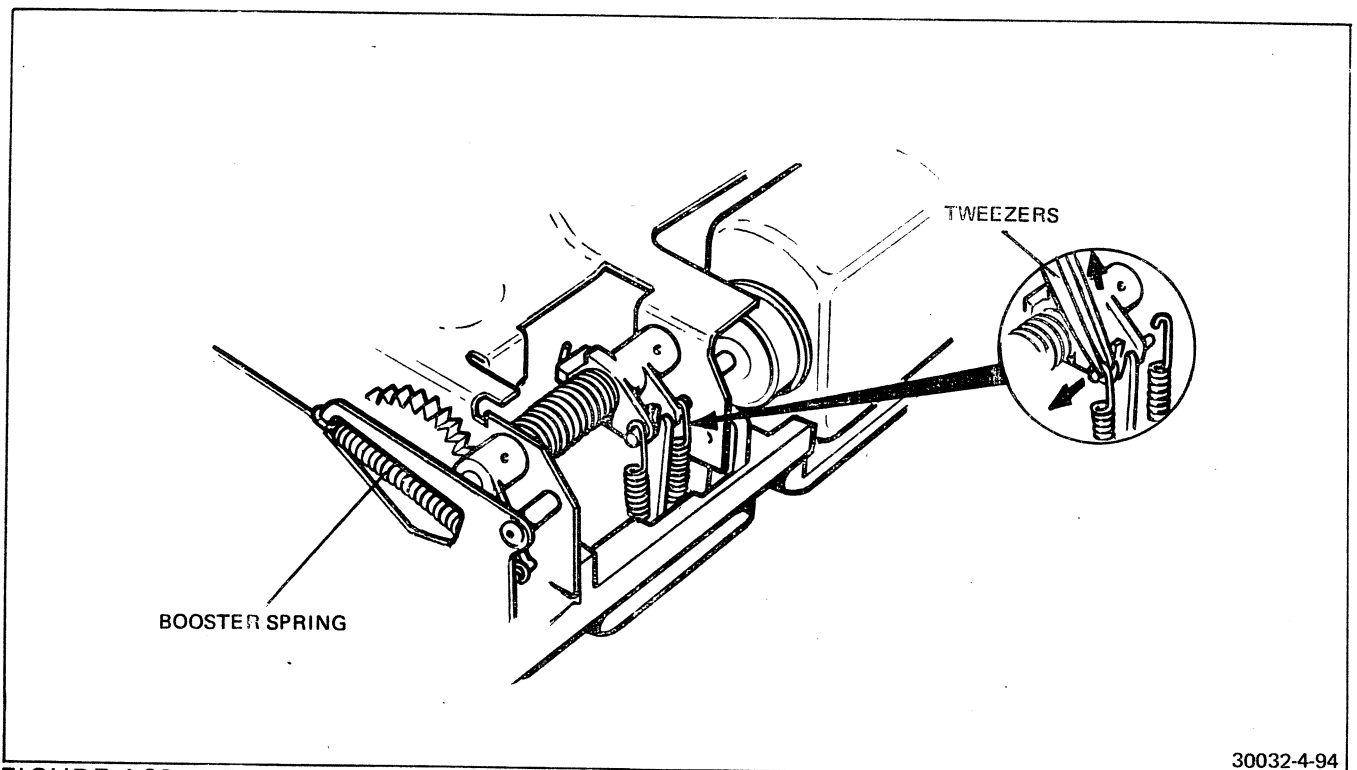

FIGURE 4-93 REMOVING OVERRIDE SPRINGS
12. Refer to Figure 4-93. Use Special Tool # 11680 or tweezers and remove the two override springs.